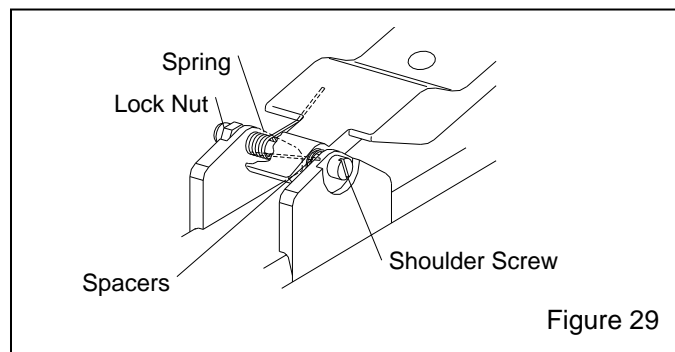

Figure 29
### **6.8.3 Handle lever replacement, Figure 29**
**6.8.3.1** Remove the lock nut from the shoulder screw. Before removing the screw, note the positions of the spacers and spring as shown in Figure 29. The bent end of the spring is against the handle lever, facing up. The straight end is against the body, facing down.